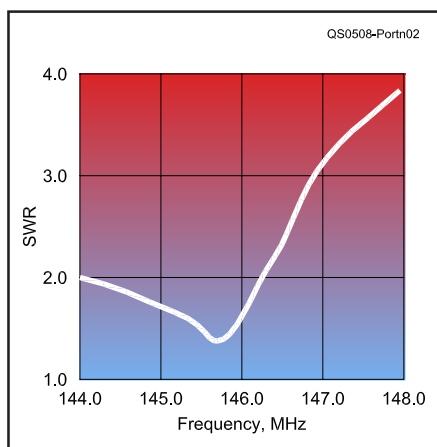

Figure 2—An SWR plot of the completed loop. A 1:1 match at the resonant frequency is possible by compressing or expanding the feed loop.
There is a restriction, however. Compact loops require low conductor resistance as compared to full-sized dipoles. (See the technical discussion later in this article.) This requires that we use copper water pipe for construction. Also, compact loops have narrow bandwidth (BW)—in this case, a theoretical BW of 600-700 kHz. Practically, however, the BW is wider. Figure 2 shows an actual SWR plot of my loop.